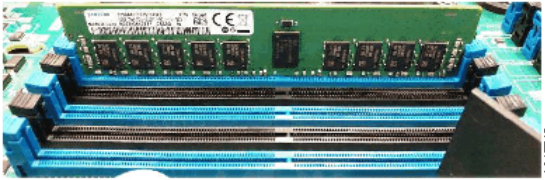

Figure 84. Installing the DIMM
13. Insert the DIMM into the connector by aligning the edges of the DIMM with the slots at the ends of the DIMM connector, as shown in Figure 84 on page 138.